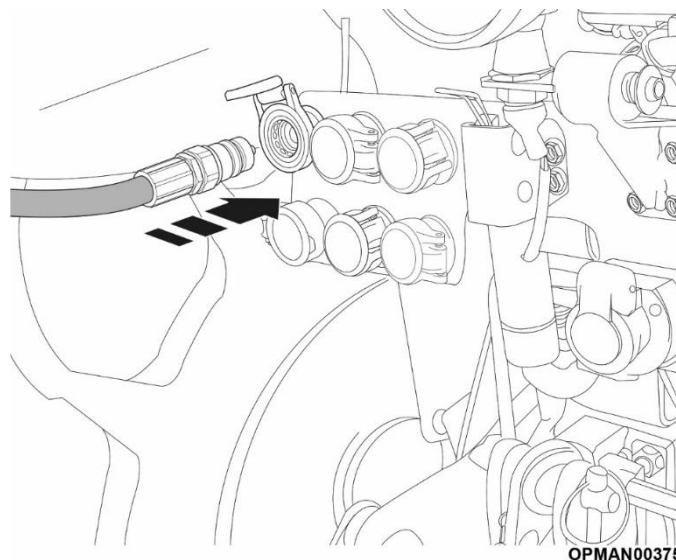

Figure 9
- 3.2.2.9 Connect the 4 hoses of the hydraulic system of the Mower to the appropriate services on the tractor (Figure 9) considering that: